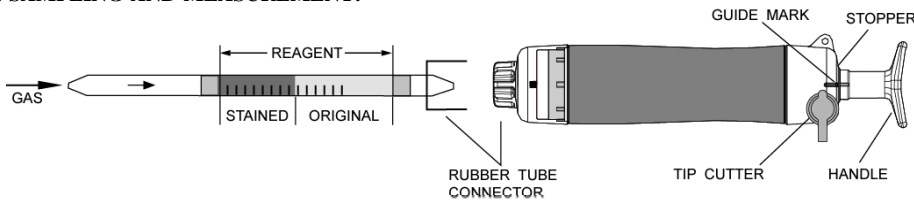

Fig.1
- ② Insert the detector tube into aspirating pump securely as shown in Fig.1. (Arrow mark shall point to the pump.)
- ③ Align the guide marks on the shaft and stopper of the aspirating pump.
- ④ Pull the pump handle at full stroke until it locks and wait for 1 minute or until the completion of sampling is confirmed with the flow indicator of the pump (See descriptions about the flow indicator in the instructions of the pump).
- ⑤ On completion of sampling, read the scale at the maximum point of the stained layer.
- ⑥ In case of 2 pump strokes, push the handle once more without removing the detector tube from the pump inlet, turn it right or left 1/4 and repeat step ④ once.
- ⑦ In this case, actual concentration is half of the reading value.